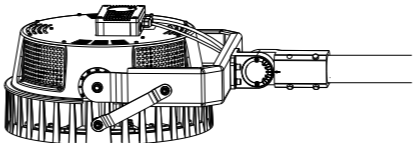

Figure 14
2.Loosen the fixing bolts and adjusting bolts, align the fixture to required angle. Tighten adjusting bolt and fixing bolts after the angle is confirmed.(Figure 14)